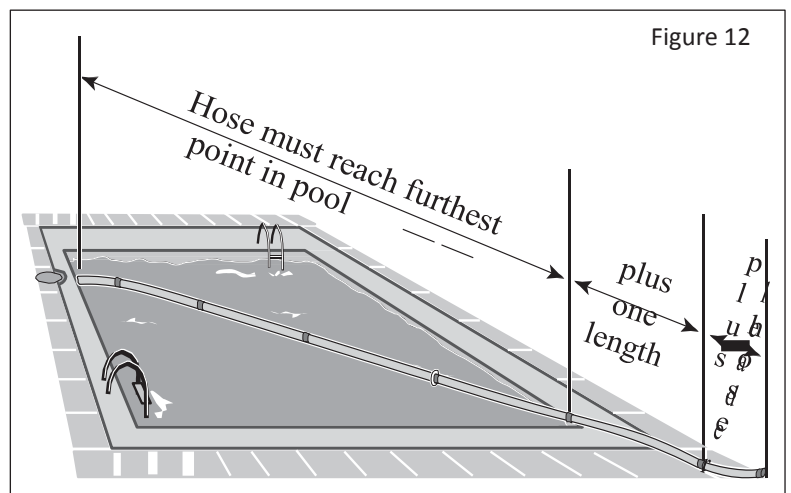

Figure 12
1. The hose should be long enough to reach the end of the pool, plus one hose section and the leader hose. See **Figure 12**.